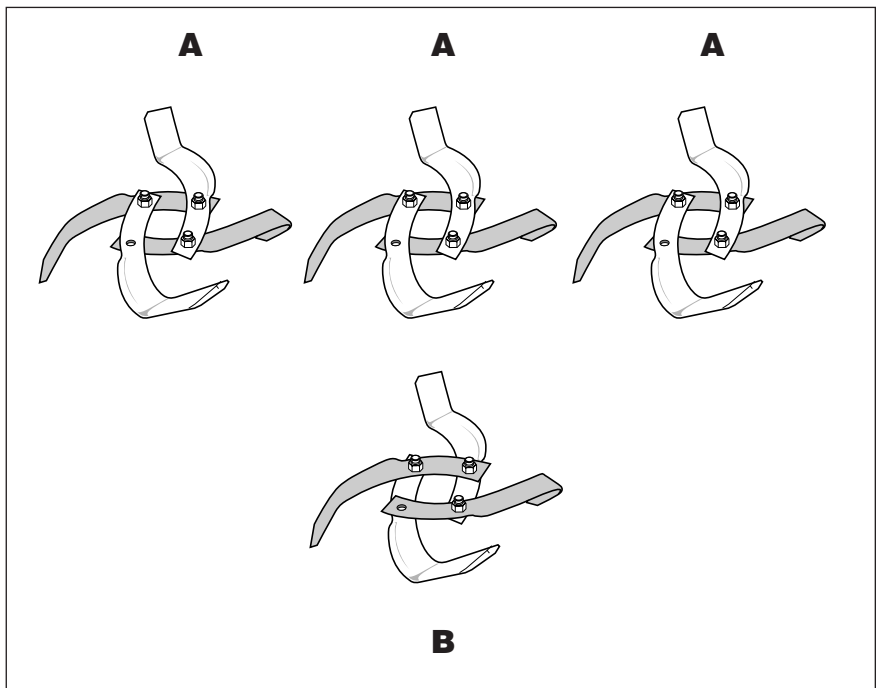

Figure 14: Three "A" gangs and one "B" gang.
In this assembly procedure, you will be assembling left-curved and right-curved tines into **gangs** (sets of four tines assembled according to a specific pattern). When the assembly is complete, you will have three (3) "A" gangs and one (1) "B" gang (see Figure 14).